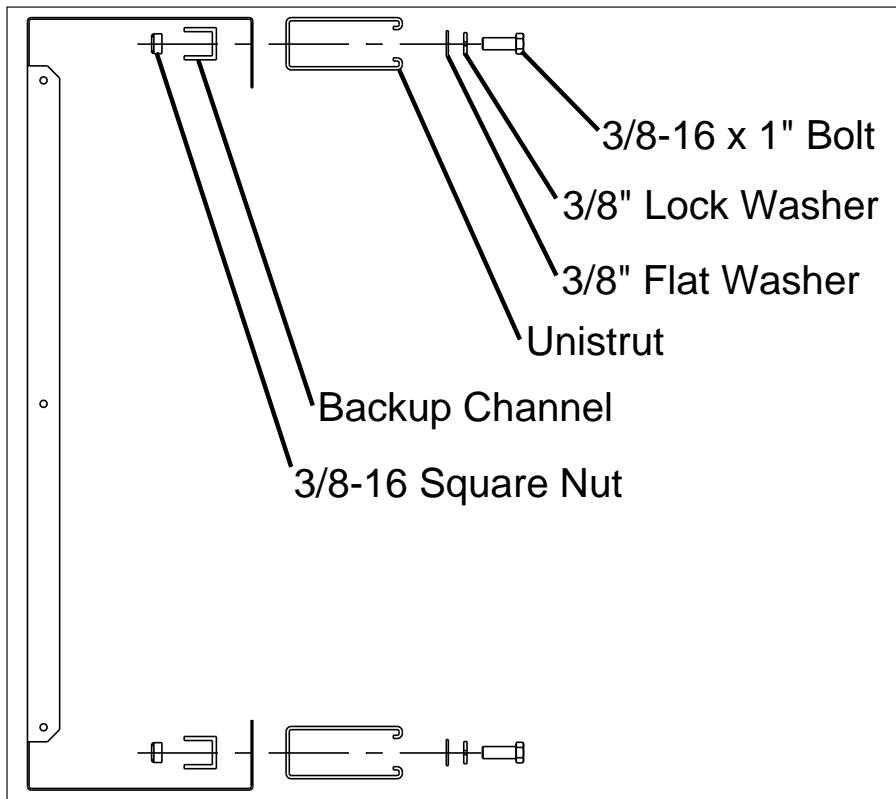

Figure 14: Unistrut Attachment, Side View
3. Attach pieces of unistrut to the ad panel with the included 3/8" hardware, as shown in **Figure 14**.